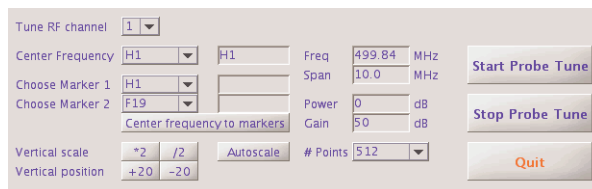

Figure 6. Manual Tuning Panel
4. Select **Start Probe Tune** on the mtune panel see Figure 6.